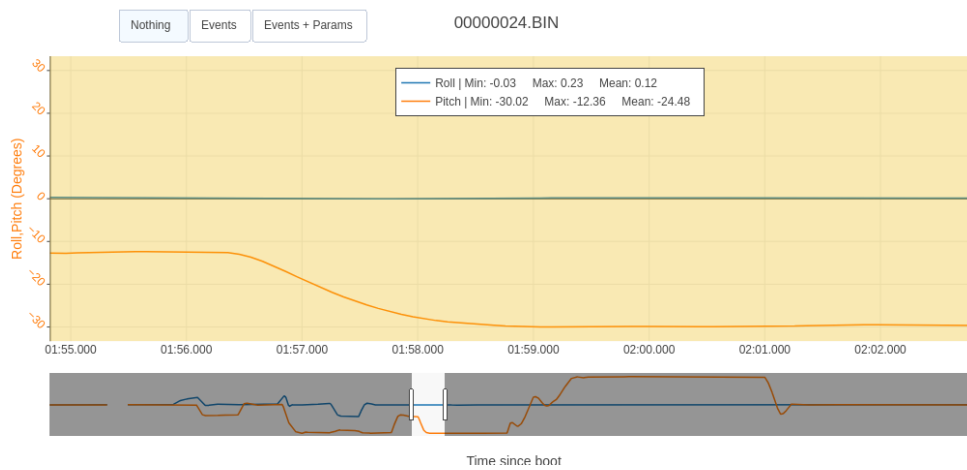

Figure 6: Waypoint 4 to Waypoint 5 (Pitch, Roll vs Time)
- It can be observed from fig. 6 that the mean roll angle is approx. 0° and mean pitch angle is about -24.48° (pitching down). During this part of the mission there is zero wind.